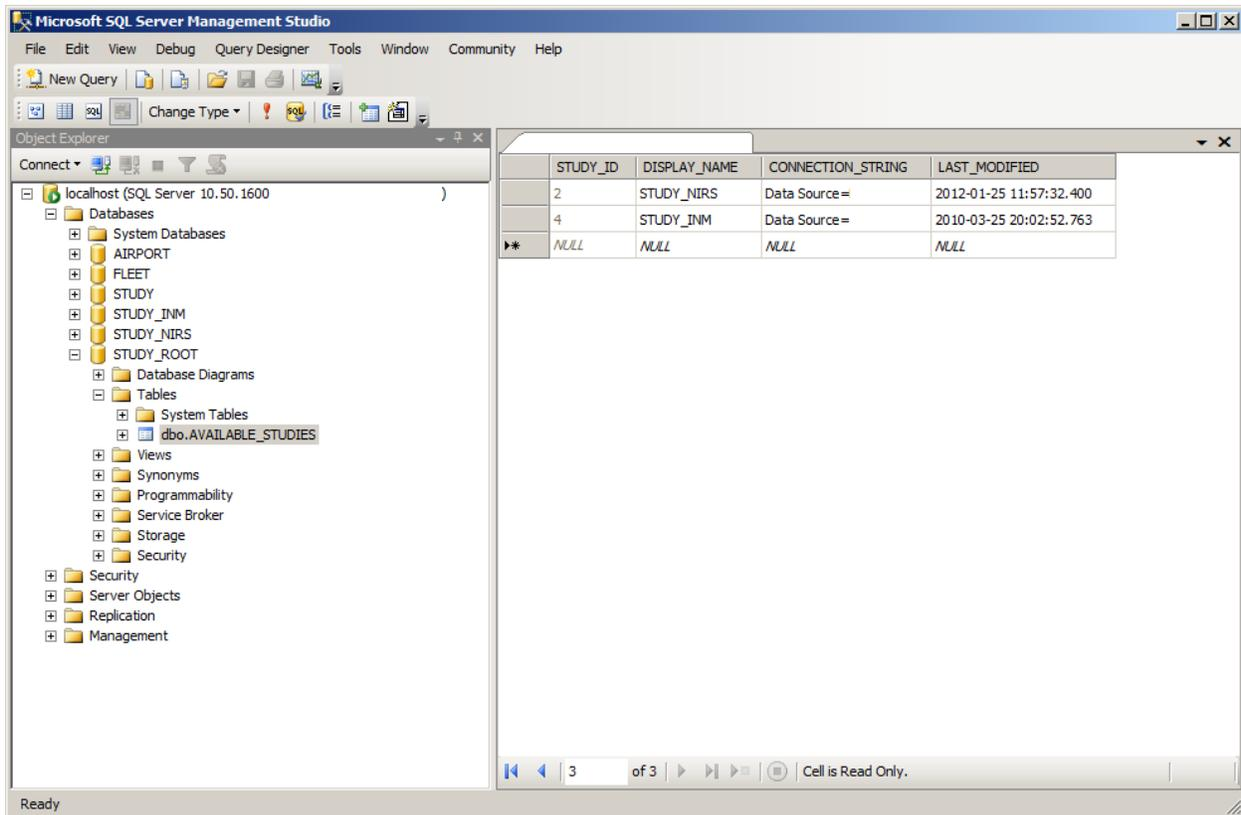

Figure D-4 Sample STUDY\_ROOT Database
- Right-click on *dbo.AVAILABLE\_STUDIES* and select *Edit Top 200 Rows*. See Figure D-4 below, for a sample screen shot of the STUDY\_ROOT database.